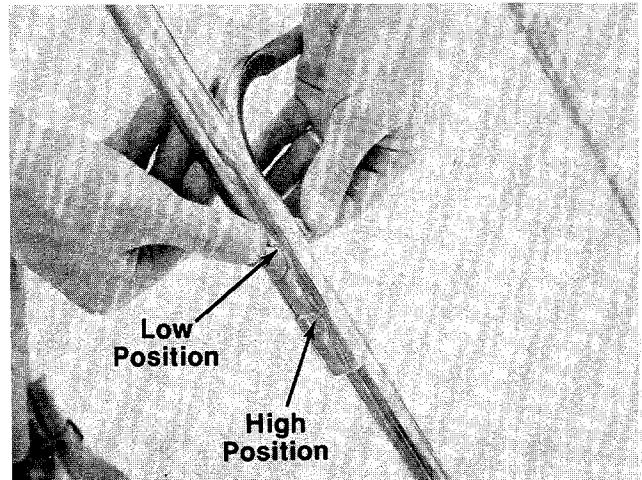

FIGURE 13.
4. Assemble upper handle to lower handle, selecting hole for either high or low position. Refer to figure 13. Secure with two curved carriage bolts (C), lock washers (D) and hex nuts (E) as shown in figure 3.
The upper handle can be adjusted to a high or low position. The adjustment is made by removing the hex nuts, lock washers and curved carriage bolts, and reassembling in the other position. See figure 13.